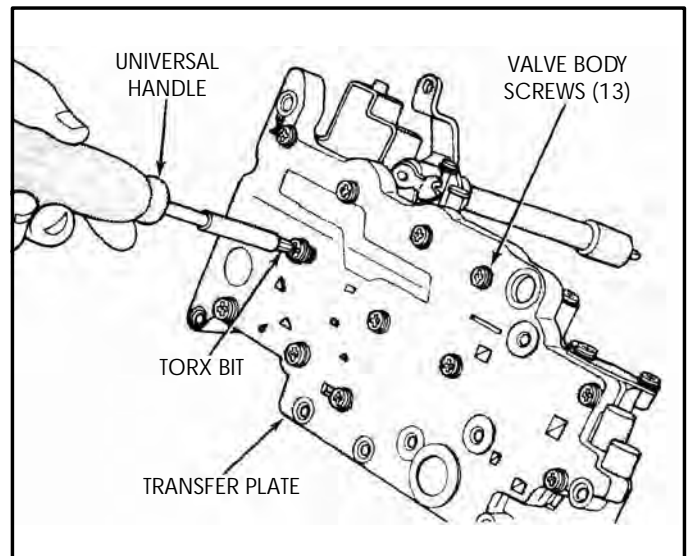

Figure 107
18. Install transfer plate and spacer plate assembly onto valve body and **hand start** all retaining screws, as shown in Figure 107.